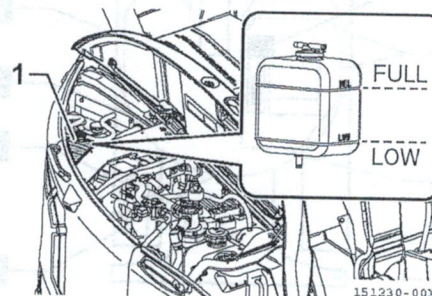

Fig. 3-2
- Check the cooling water level in the sub-tank (Fig. 3-2, 1) when the engine is cool.
1. Open the front cover (right). Then check that the cooling water level in the sub-tank (Fig. 3-2, 1) is between the FULL and LOW marks. If the water level is below the LOW mark, refill the sub-tank (Fig. 3-2, 1) up to the FULL mark through the water supply port of the sub-tank (Fig. 3-2, 1). For the cooling water to be used, refer to Section "4. Fueling, Oiling and Greasing Based on Temperature Range" on page 197
3. If the sub-tank (Fig. 3-2, 1) is empty, check it for water leakage, and then, check the water level in the radiator.
If the water level is low, refill the radiator first, then refill the sub-tank (Fig. 3-2, 1).